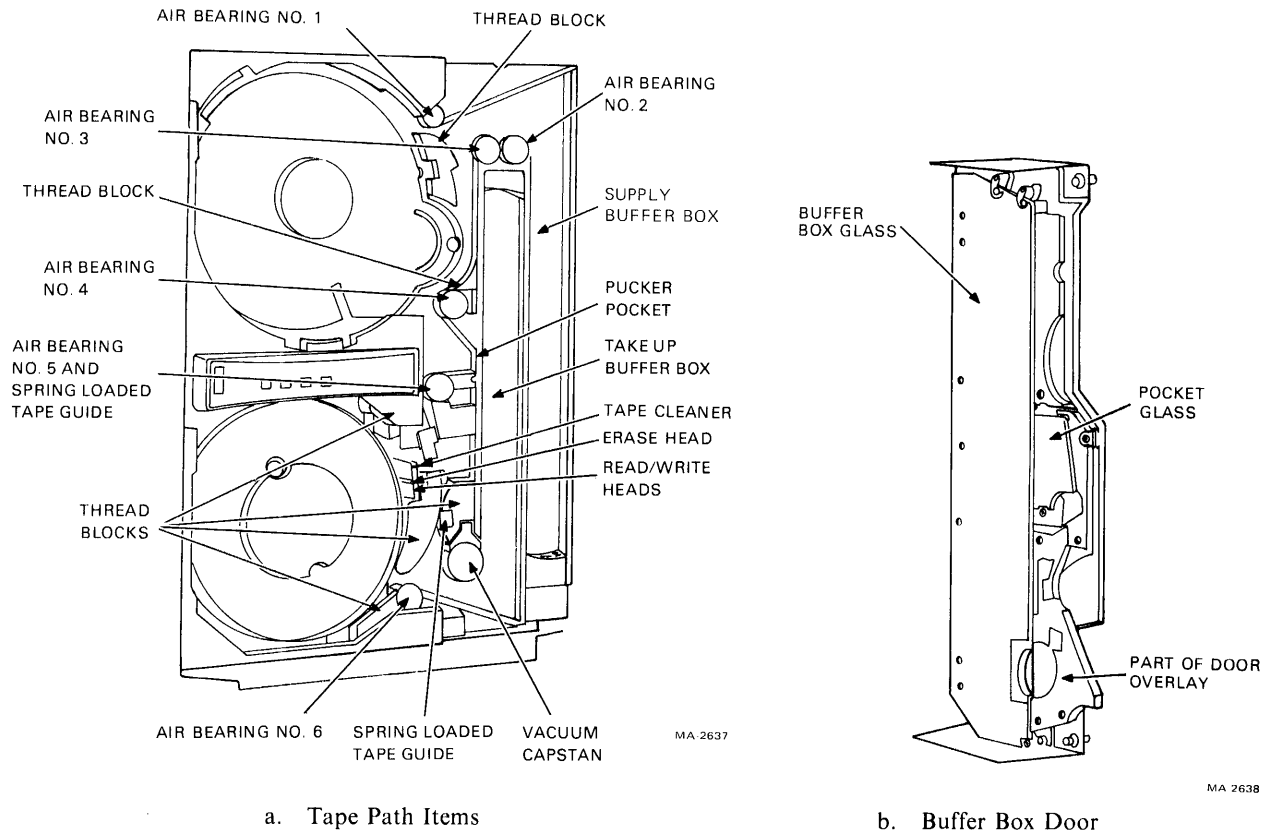

Figure 4-1 Transport Items for Daily Cleaning
2. Clean the following components of the transport using a foam-tipped swab soaked in cleaning fluid (Figure 4-1).
- Air bearings (6)
- Spring-loaded ceramic tape guides (2)
- Thread blocks (6)
- Buffer boxes (2)